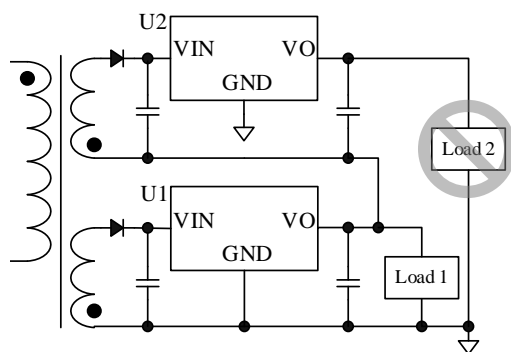

Figure 13-1. Stacked on Loads
- Load 2 is stacked on Load 1 (see in Figure 13-1).